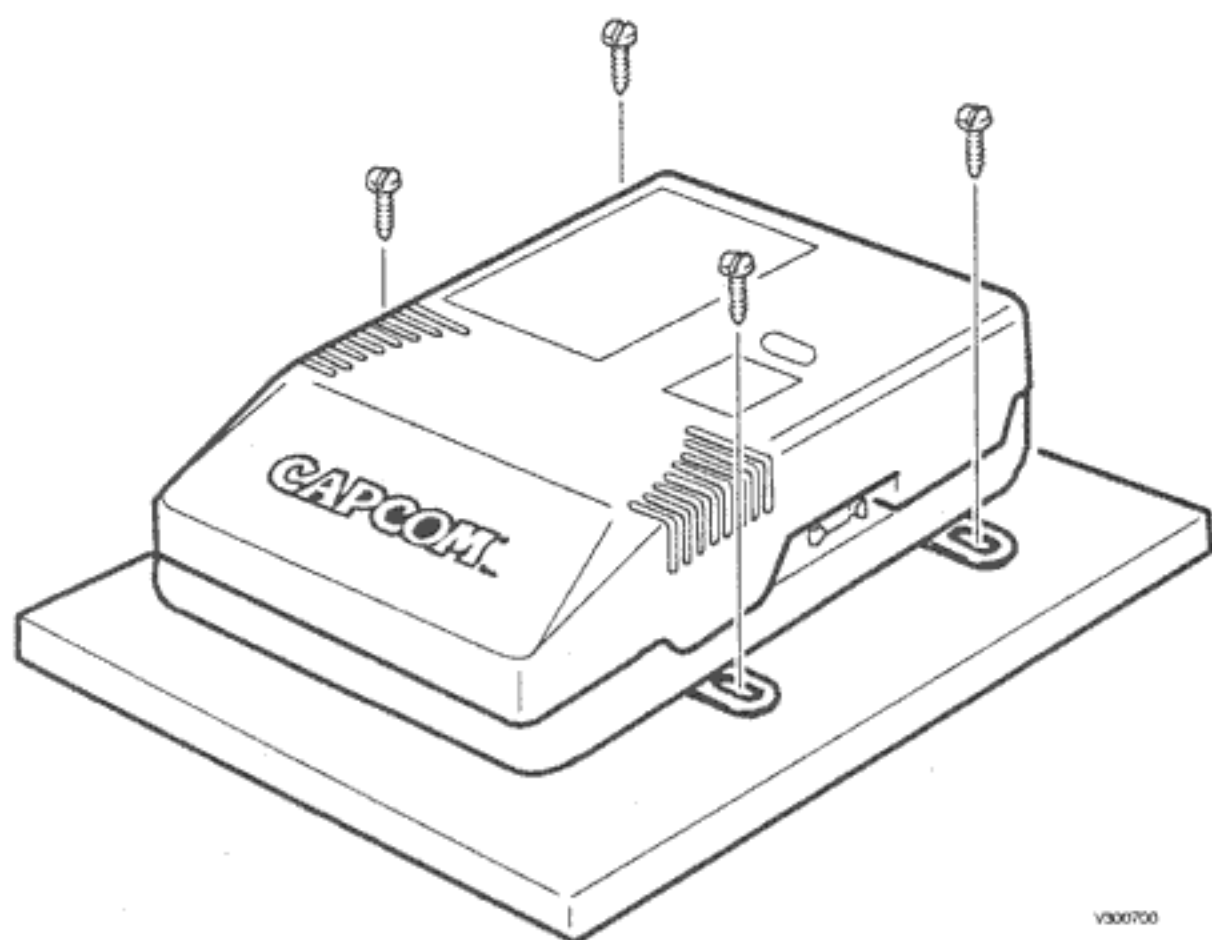

Figure 11: Case Mounting
21. Using the supplied wood screws, fasten the game cartridge case to the control panel shelf, as shown in Figure 11.